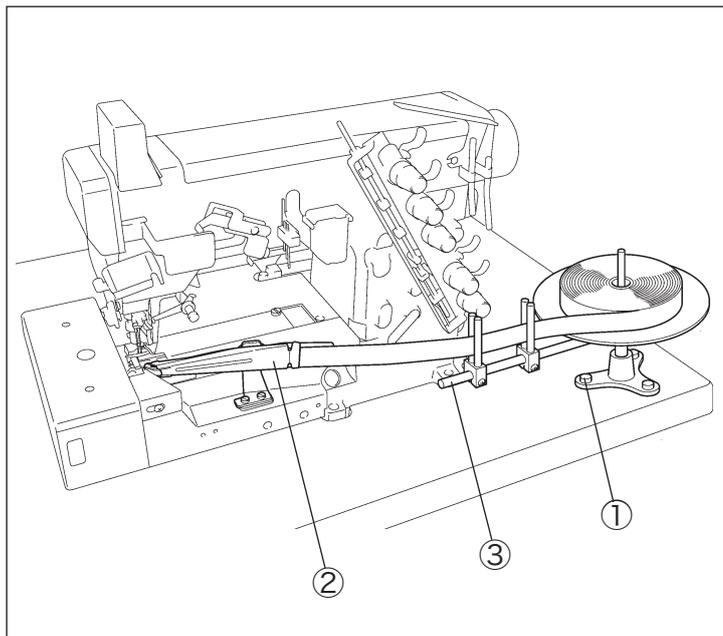

Fig. 2-16
- (2) Fix the tape stand on the machine table with the wood screws ① (Fig. 2-16).
- (3) Adjust the direction of the tape guide bar ③ to feed a tape into the folder ② smoothly.